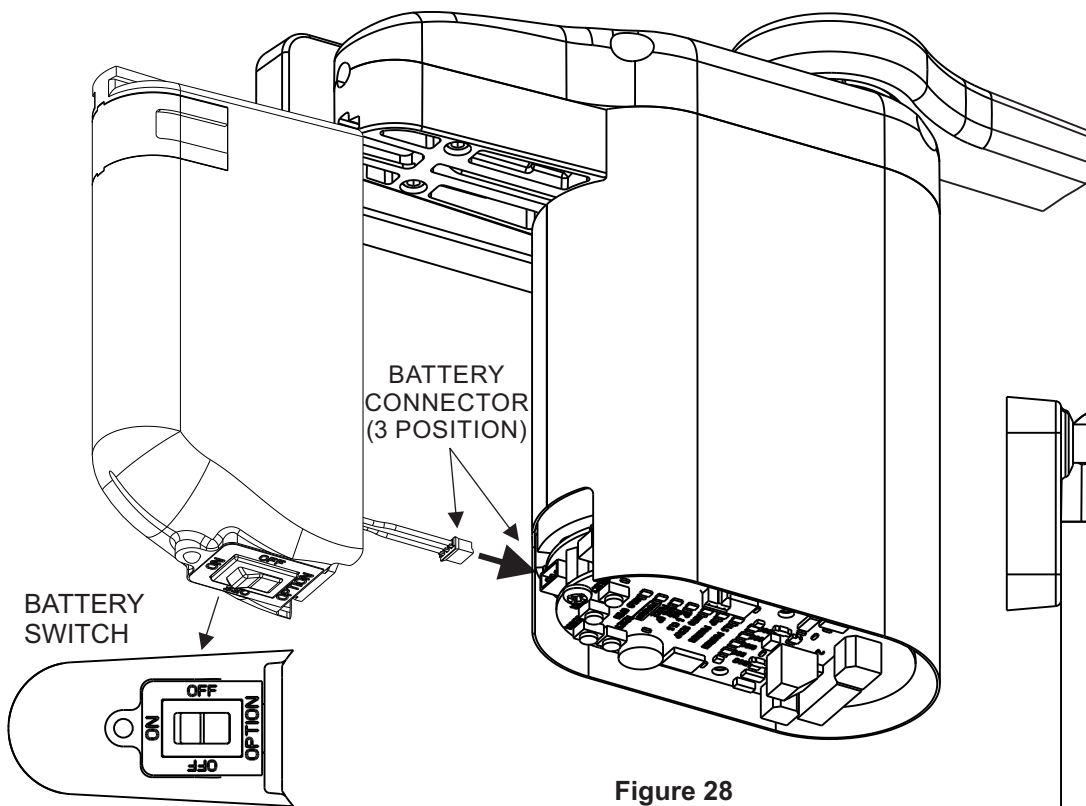

Figure 28
1. Refer to Figure 28 and switch the ON/OFF/OPTION switch to the OFF position.
2. Refer to Figures 28 and 29, and CONNECT the battery pack connector plug to the operator.